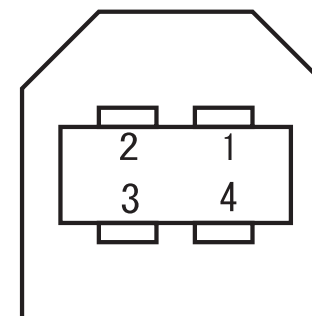

Figure 1-3. Receptacle (Series B)
- Connection Connector: Receptacle (Series B) (Figure 1-3 and Table 1-3)